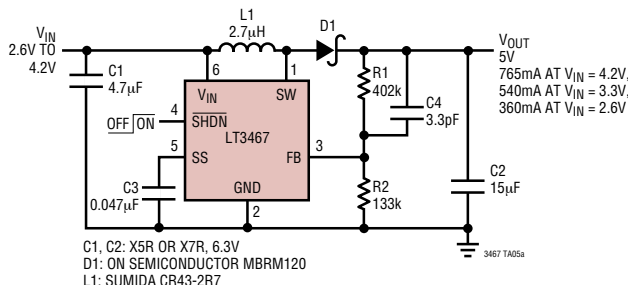
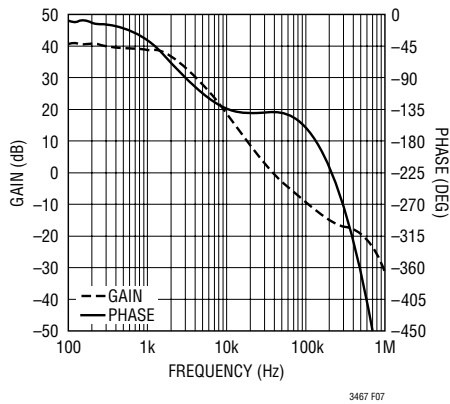

Figure 2. Single Li-Ion Cell to 5V Boost Converter (Same as 1st Page Application)
Figure 7. Bode Plot of 3.3V to 5V Application
**Start-Up Waveform (Figure 2 Circuit)**
Supply Current of Figure 2 During Startup without Soft-Start Capacitor
Supply Current of Figure 2 During Startup with 47nF Soft-Start Capacitor
A phase lead zero can be intentionally introduced by placing a capacitor (C4) in parallel with the resistor (R1) between VOUT and VFB as shown in Figure 2. The frequency of the zero is determined by the following equation.
To set the output voltage, select the values of R1 and R2 (see Figure 2) according to the following equation.
Using the circuit of Figure 2 as an example, the following table shows the parameters used to generate the Bode plot shown in Figure 7.
From Figure 7, the phase is  $-138^\circ$  when the gain reaches 0dB giving a phase margin of  $42^\circ$ . This is more than adequate. The crossover frequency is 37kHz.